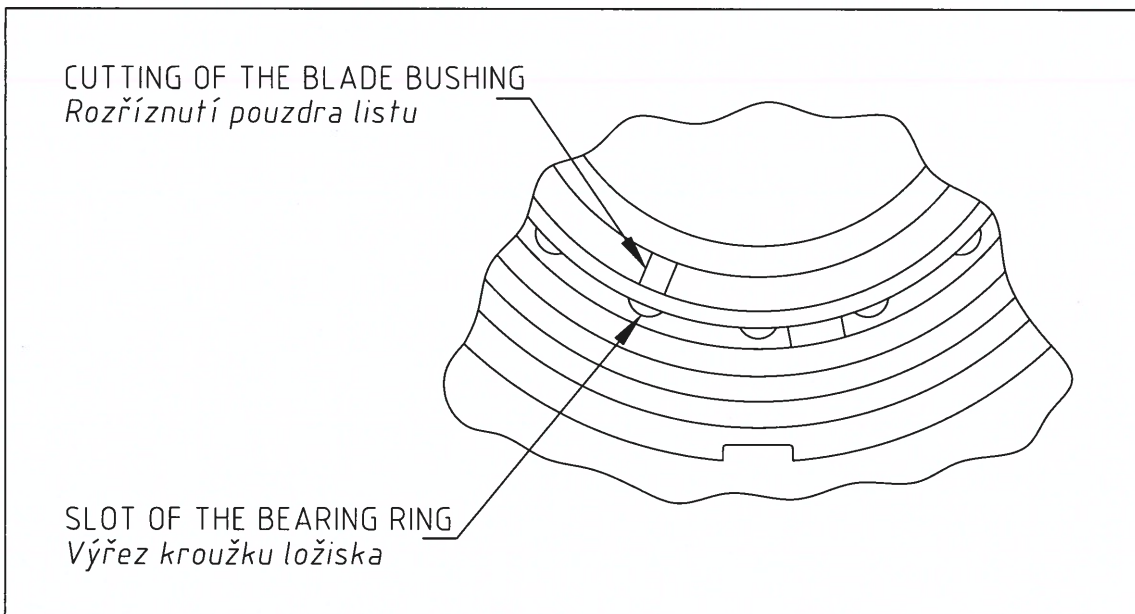

Figure 3 : Correct position of the bearing ring
B. Lubricate the blade bearing thread and very slightly the sharp edge of the seal with oil. Screw the bearing ring onto the blade bushing. During screwing be careful to sharp edge of the sealing correctly slide into the space. Torque the bearing ring with 32Nm (24 ft.lb) by using torque wrench with socket 19mm (3/4 inch) and wrench P/N 068-8301. Observe the position of internal slots of the bearing ring and the cuttings of the blade bushing. If necessary, tighten the bearing ring so that nearest slot coincide with the cutting of the bushing (figure 3). Insert the retaining ring with the ball to verify correct position of the bearing ring against the blade bushing.